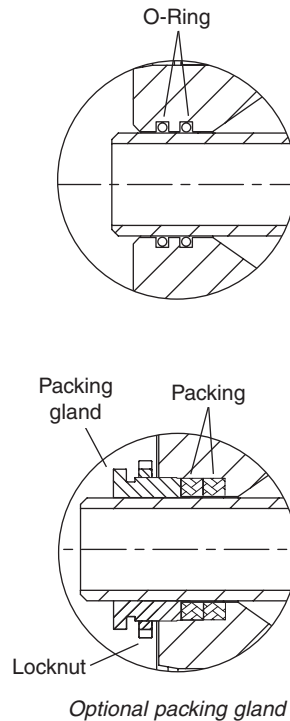

Figure 1.
Remove the hex nuts (2A) and the head (2) from joint. If optional packing gland is used, remove locknut, packing gland, and packing. See Figure 1. Make sure horizontal pipe is clean and smooth where it seals to o-rings or packing. If o-rings are present, lubricate the pipe so it slides smoothly through o-rings. Lubrication is not necessary with packing.
Position the joint with quick release flange/nipple assembly (4, 5, and 55) pointed towards the journal flange or roll end. Slide the joint over the horizontal pipe until the pipe passes through the o-rings or packing. Insert the nipple into the journal flange counterbore. Slide the quick release nipple flange (5) over the journal flange studs and secure flange with hex nuts. Tighten hex nuts evenly. The end of the horizontal pipe should extend 3/8" (10 mm) past the end of the nipple or optional packing gland if used. See Figure 1.